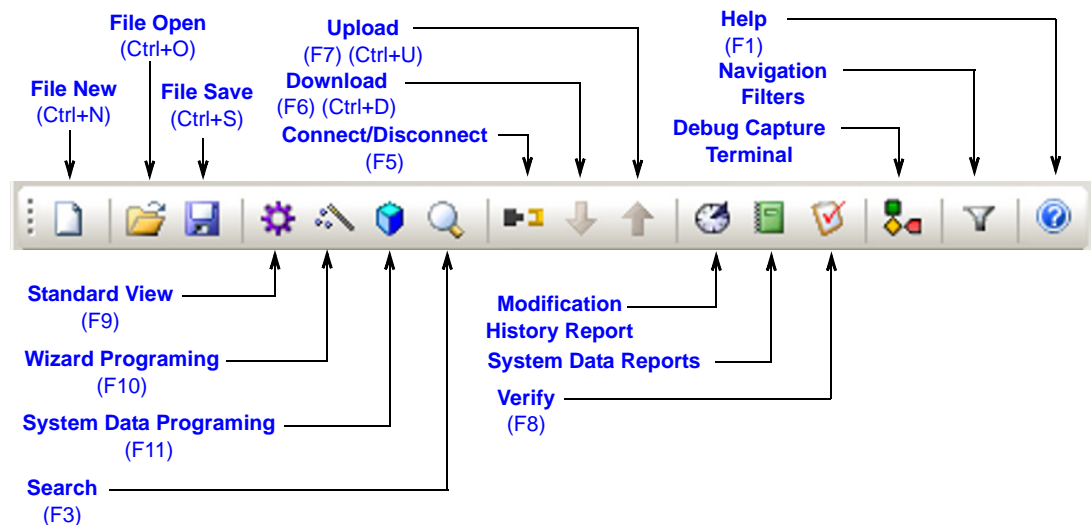

Figure 3-2 PCPro Toolbar
The Toolbar is a group of buttons that map to items in the application menu. The toolbar allows for quick and convenient access to the most common PCPro commands. The items on the toolbar are shown in Figure 3-2 PCPro Toolbar.
*The keyboard shortcuts (where applicable) are listed below the toolbar identification in Figure 3-2 PCPro Toolbar.*